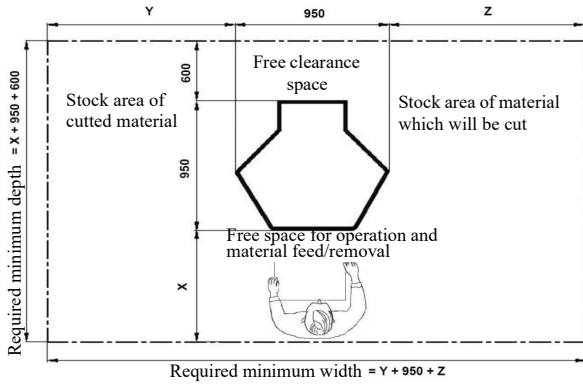

Fig. 8: Setup plan
Step 1: Make sure that the space around the machine is sufficient for the application (Fig. 8). There must be sufficient space for the operator and material transport.